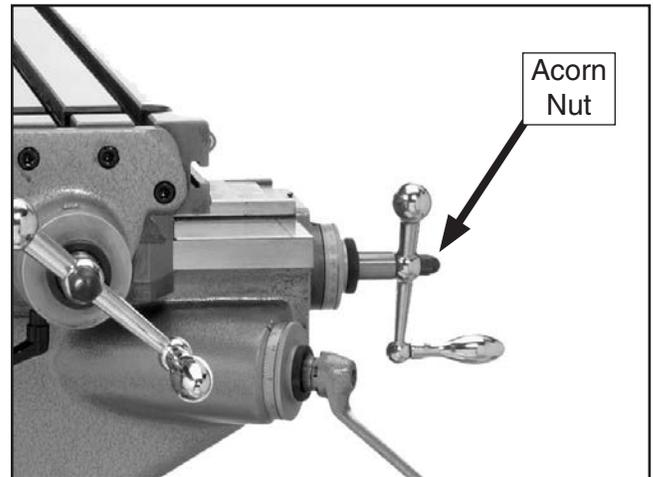

Figure 8. Table ball handle properly installed.
2. Remove the ball handles from the lead screws, turn them around, and re-install them with the handle facing out (see **Figure 8**).